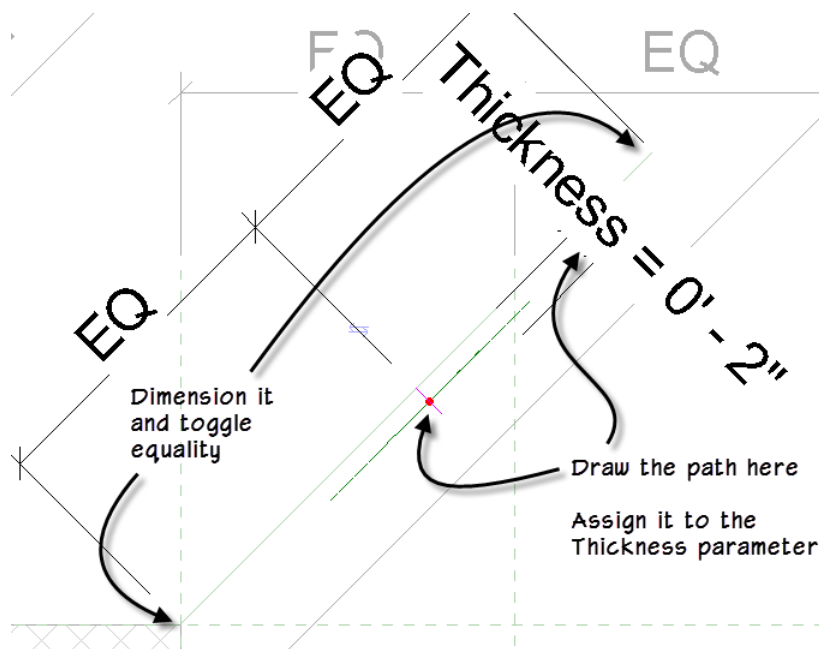

Figure 52—Sketch the path of the panel sweep, constrain and parameterize it
- b. You can also add another dimension in the other direction from the endpoints of the Reference Line and toggle the equality (see Figure 52).